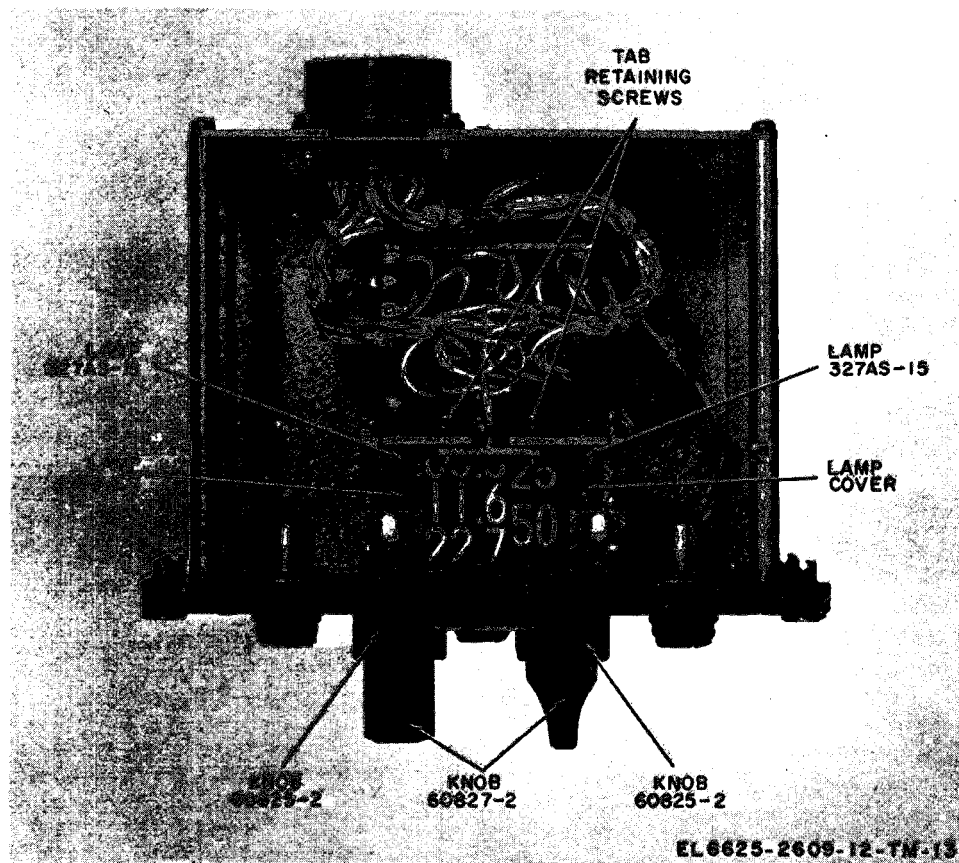

Figure 3-3. Radio control dial indicator lamp locations.
- d. Remove the lamp cover (fig. 3-3) from the dial indicator lamp.
- e. Loosen the tab retaining screw (fig. 3-3) near the lamp base.